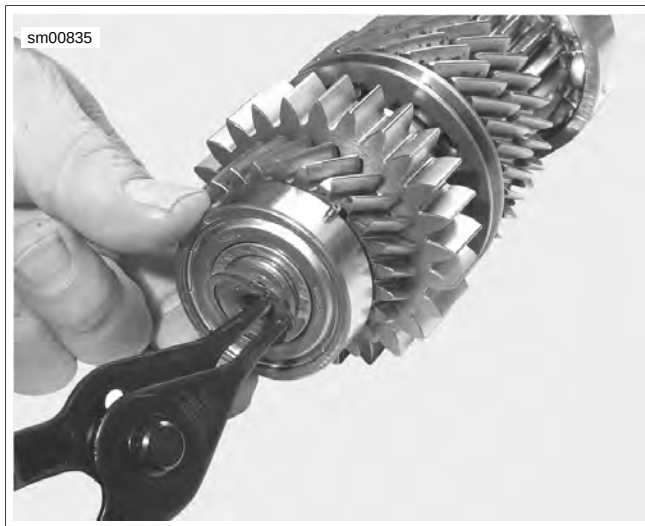

Figure 6-133. 2nd Gear Bearing Retaining Ring
1. See Figure 6-133. Remove retaining ring at 2nd gear crankcase bearing.